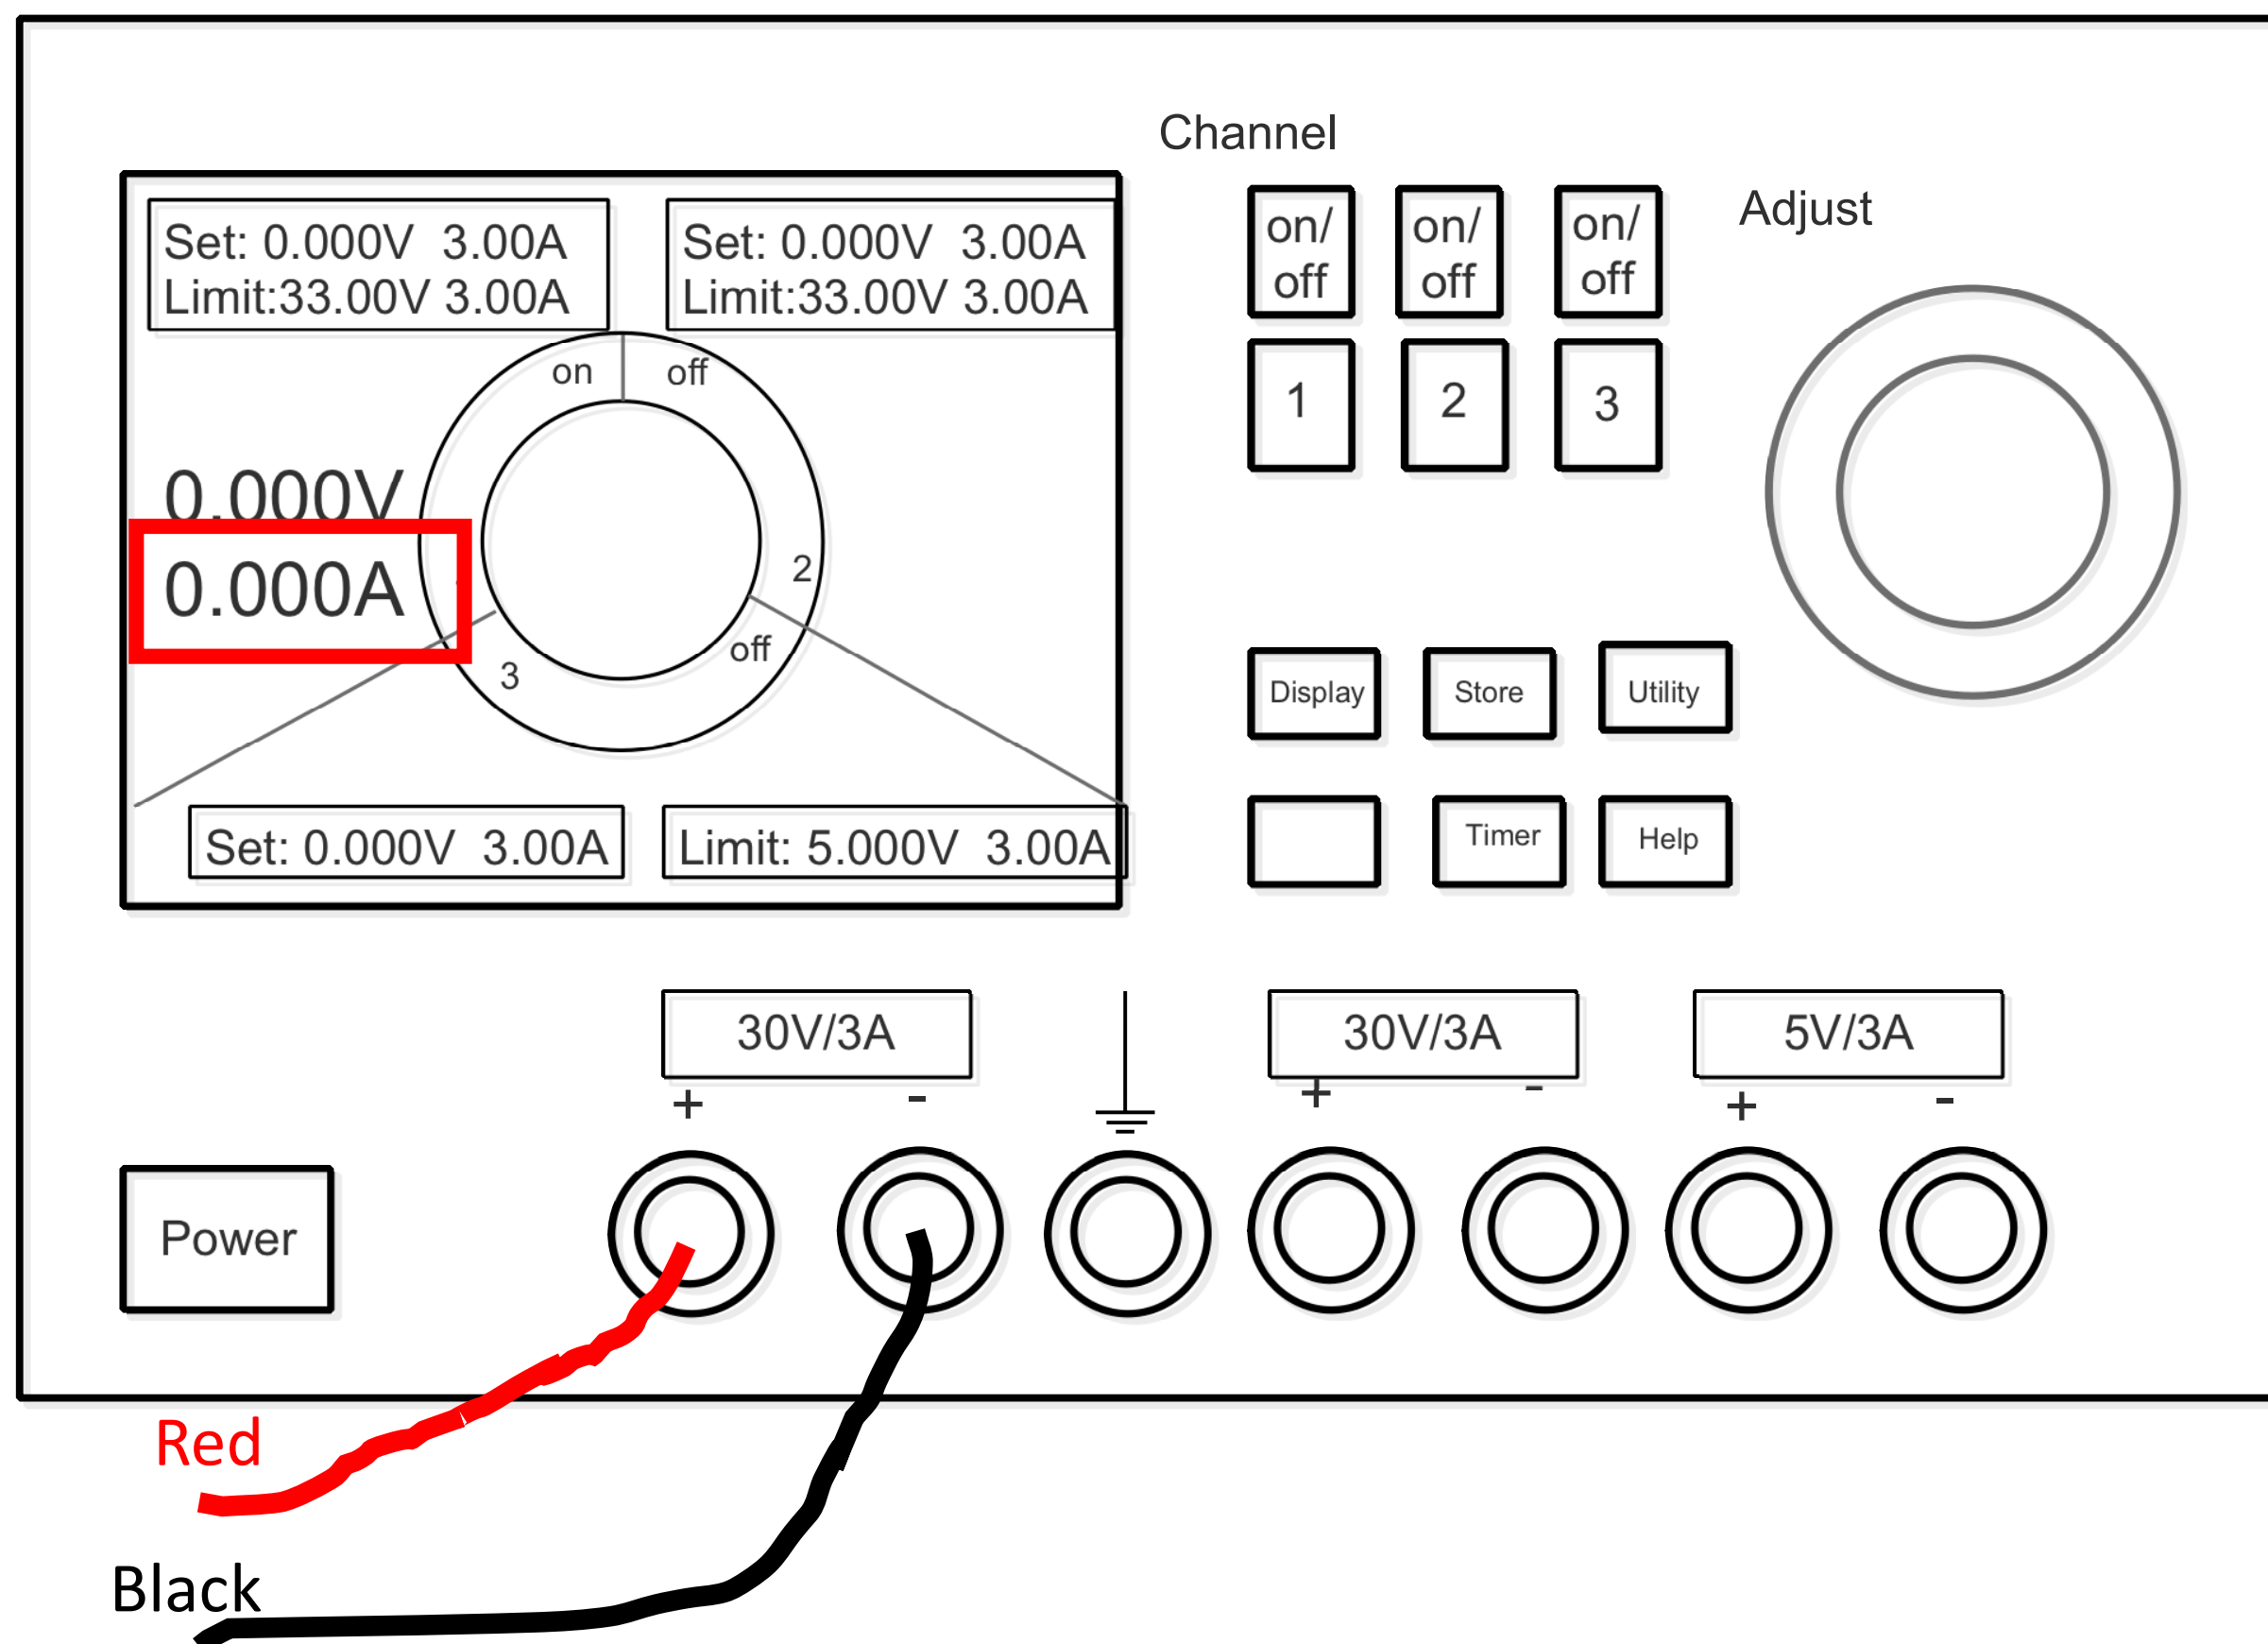

Figure 5: Configuration of the power supply when providing a voltage to a circuit
- 2) **Push the button labeled “1” under Channel area** to allow the device to deliver at most 30 volts (and currents up to 3A). You will use the pair of terminals labeled + and – of **Channel 1**. See Figure 5.
3. Make sure you make the right connection, then turn on the DC power. Run the motor for 1 minute to “warm it up”. Now we will record how much current flows through the motor. The current can be read directly from the voltage supply (As show in Figure 5).